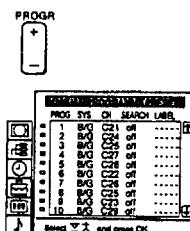

Fig. 18
- 3 Select "Manual Programme Preset" with Δ+ or ∇- and press OK. The MANUAL PROGRAMME PRESET menu appears. (See Fig. 18.)